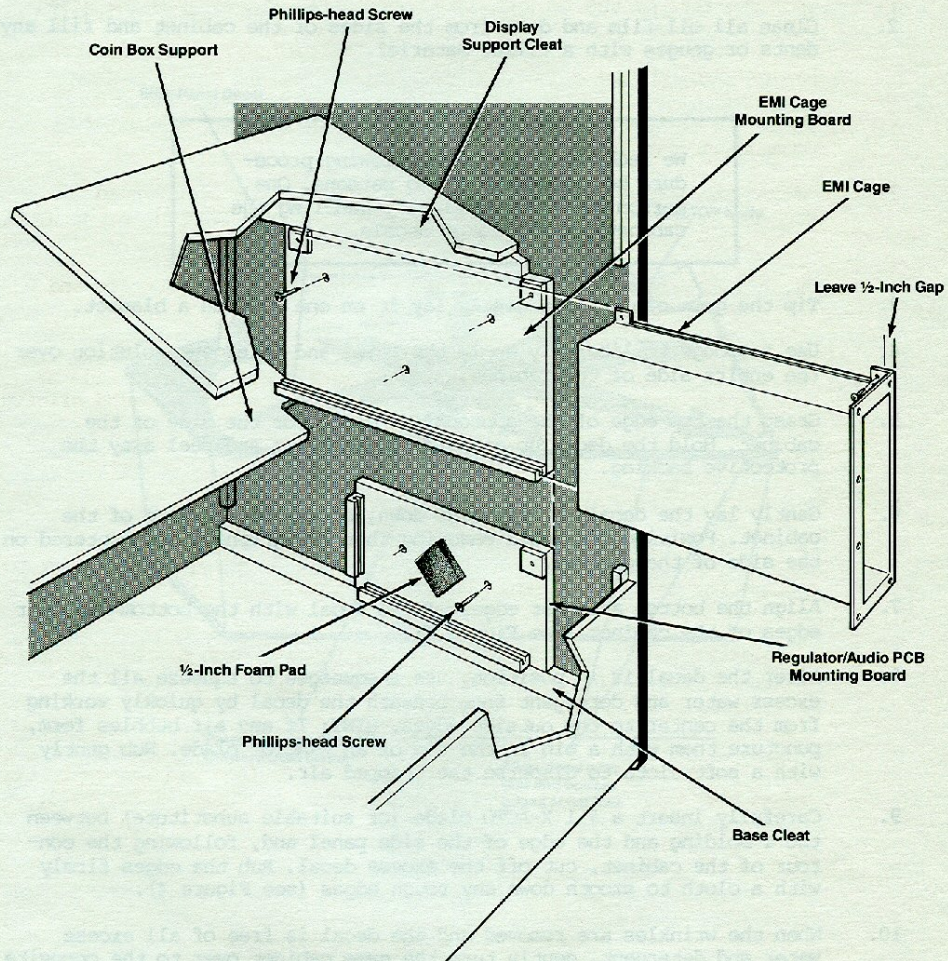

Figure 3 Installing the PCB Mounting Panels and EMI Cage
2. Install the Regulator/Audio PCB mounting panel on top of the cabinet-base cleat and align it with the rear edge of the EMI cage mounting panel. Secure the panel using two 1-1/4 inch Phillips-head screws (see Figure 3).
3. Remove the protective backing from the 1/2-inch foam pad and apply the pad to the Regulator/Audio PCB mounting panel as shown in Figure 3.
1. Install the EMI cage (and PCBs) by sliding its tabs into the lower cleat. Secure the cage with two 3/4-inch Phillips-head screws (see Figure 3). Be sure to leave a 1/2-inch space to attach the grounding clip.